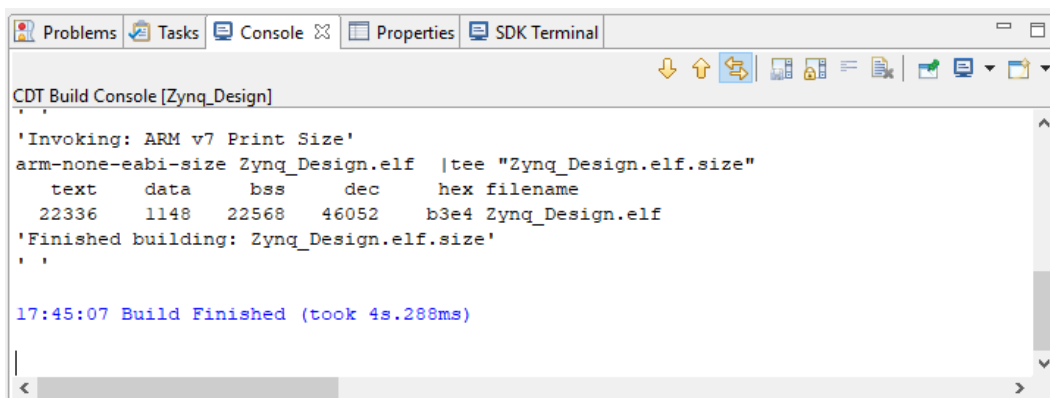

Figure 27: Compilation messages in the SDK Console.
- The program will begin compiling in the SDK. When it finishes compiling, you will see the console messages shown in Figure 27.